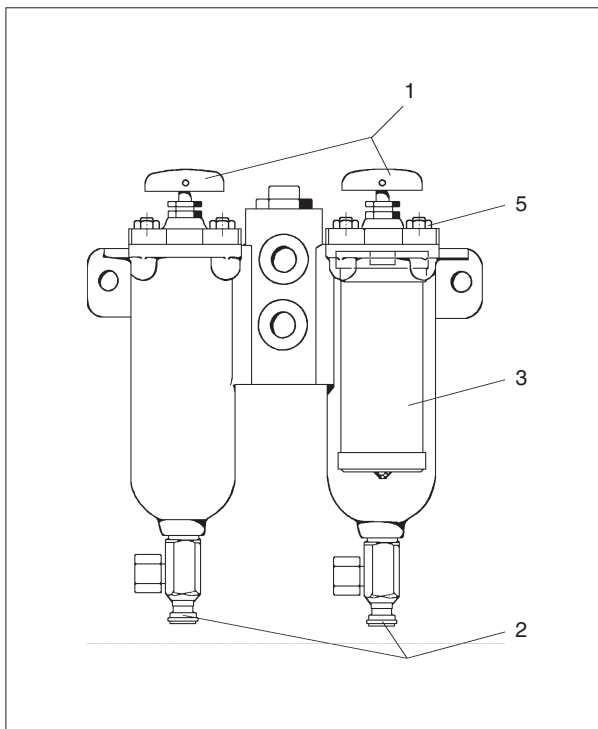

Fig. 1. Fuel oil split filter
2) Normally the filters are cleaned during operation by turning the handle, (1) see fig. 1, on the filter housing top a couple of turns. (clockwise).